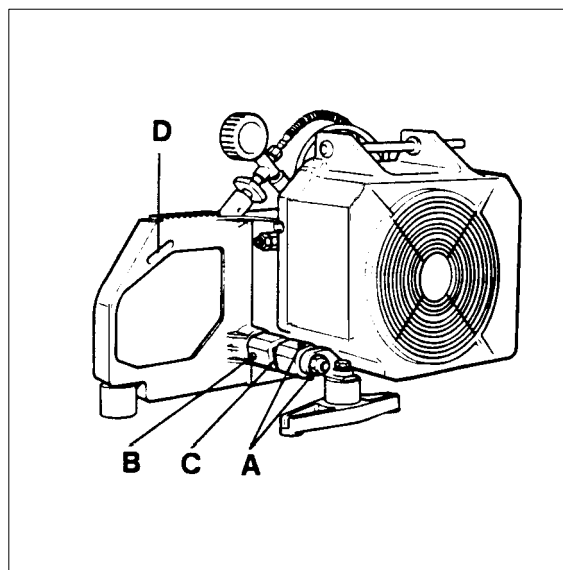
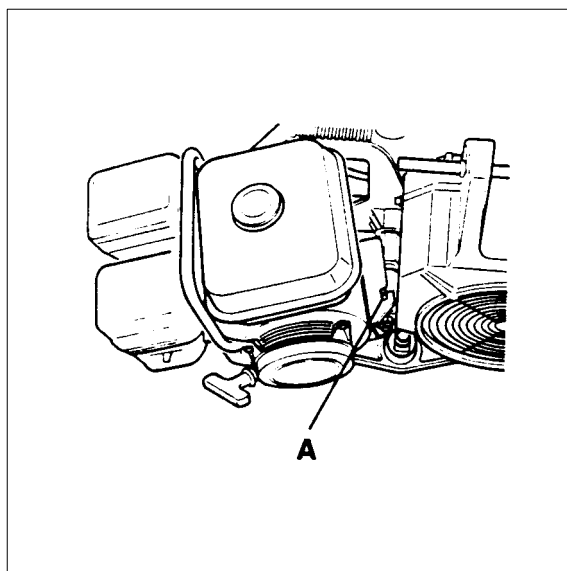

Fig. 18 Hinged motor plate
Fig. 19 Frame opening
The provided drive motors are equipped with a hinged motor plate (A, Fig. 19) and a V-belt pulley. They are mounted on the torsion bar axle (C, Fig. 18).
- First insert motor with its V-belt pulley into frame opening (Fig. 19) and slip hinged motor plate onto torsion bar axle until pins -A engage into slots in motor plate A, Fig. 19).
Removal of motor is performed in reverse order. Petrol engines are fastened in addition by a hexagonal screw mounted on the frame of the compressor unit (D, Fig. 18). Tighten screw regularly.